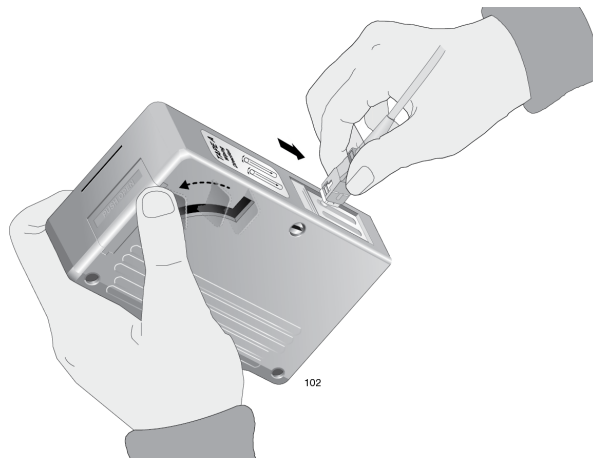

Figure 23. Rubbing the Ferrule Tip on the Cleaning Surface
1. With one hand, hold the cartridge cleaner and push the lever on the cleaning cartridge in the direction of the arrow to expose the cleaning surface, as shown in Figure 23.
2. Place the ferrule tip on the exposed cleaning surface and rub the ferrule in a downward direction, as shown in Figure 23.
1. Insert the swab into the adapter as shown in Figure 23 and rub the ferrule tip with the swab.